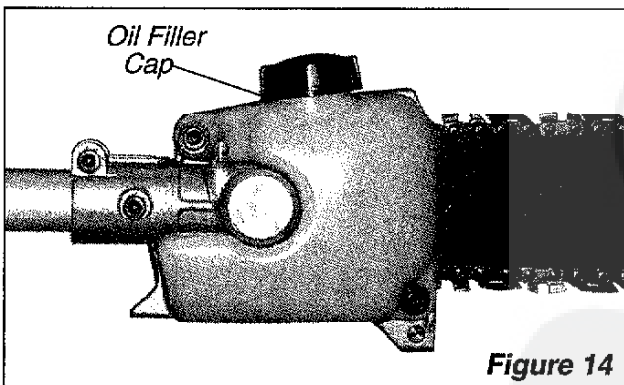

Figure 14
1. Place the pole pruner on a clean, flat surface with the oil filler cap facing up. See Figure 14. Wipe off any debris from the oil cap and from around the oil filler neck.